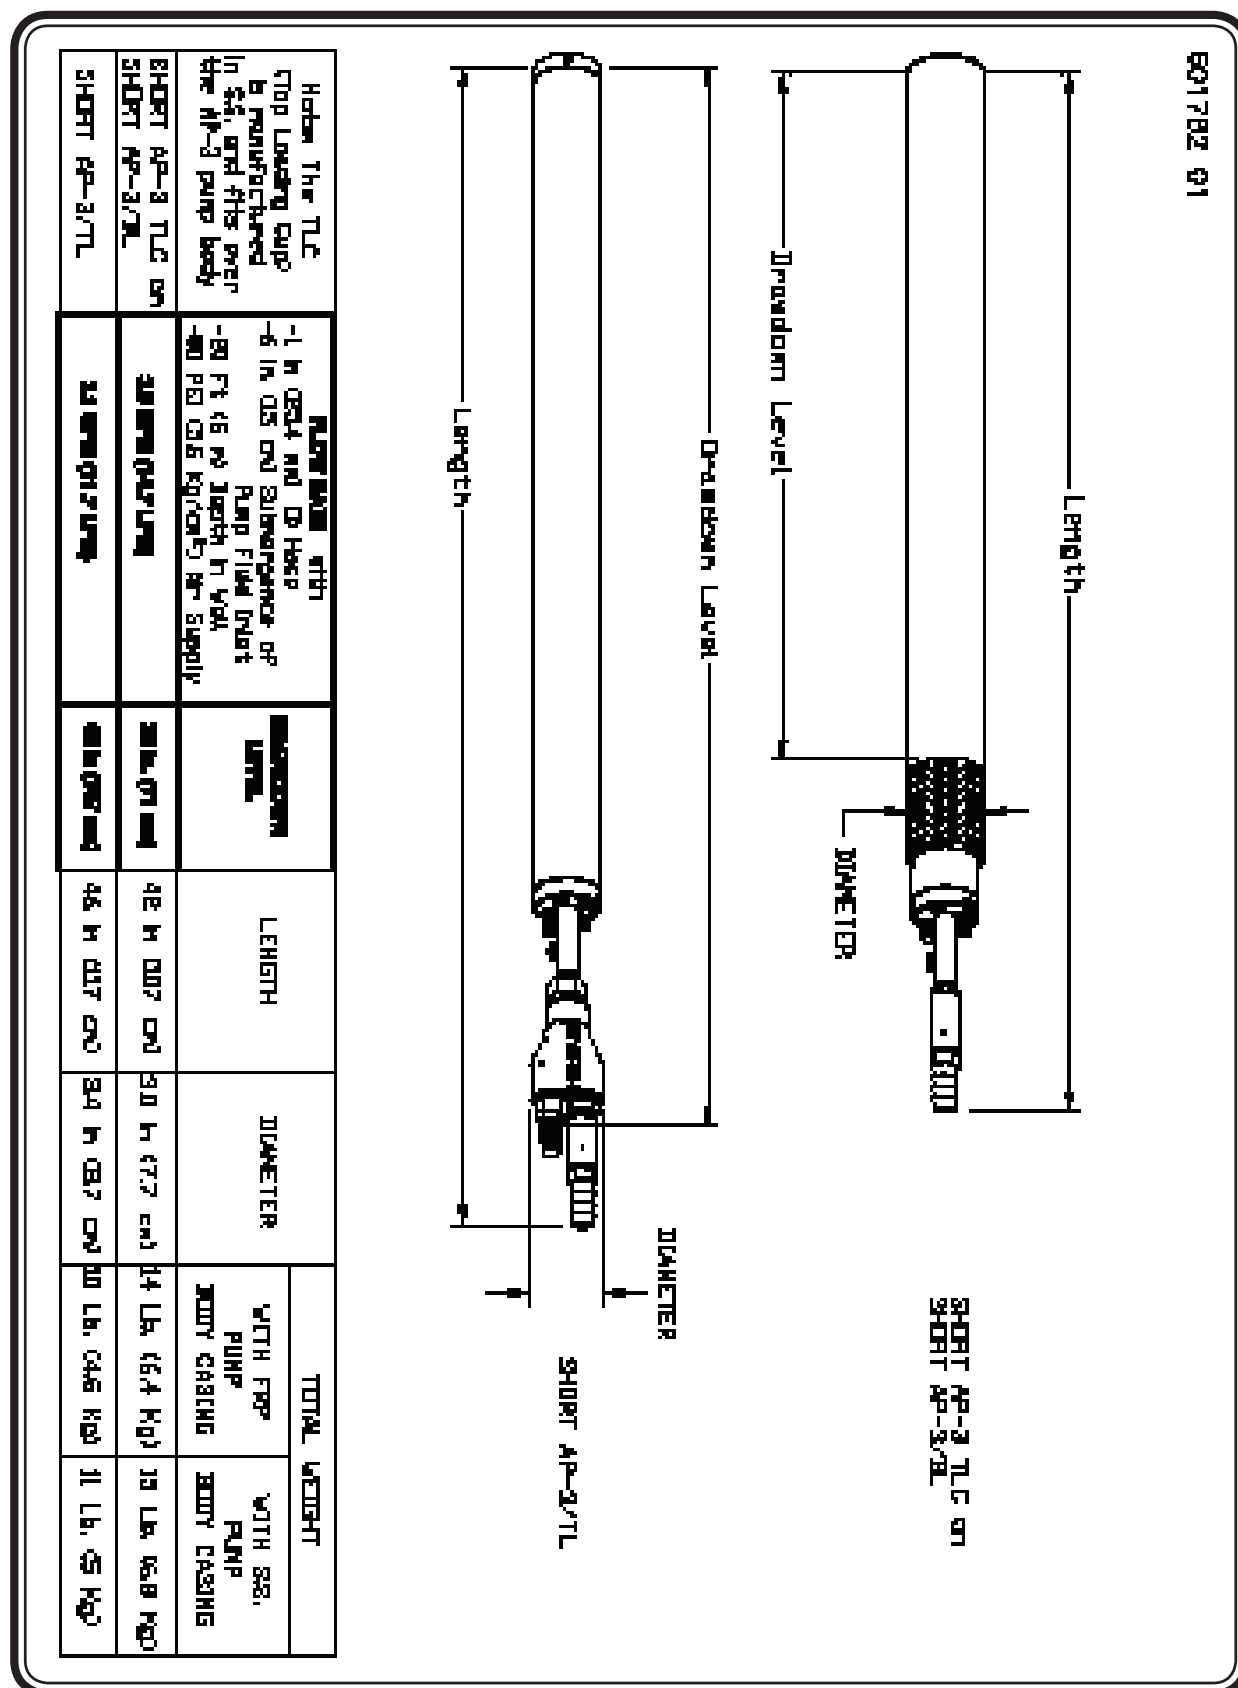

Figure 9 - Short AP-3/TLC and Short AP-3/TL Comparison
- **Top Loading Cups** – A factory installed stainless steel Top Loading Cup provides a lower drawdown level than a normal Top Loading pump and an increased flow rate. (see **figures 9 and 10**)